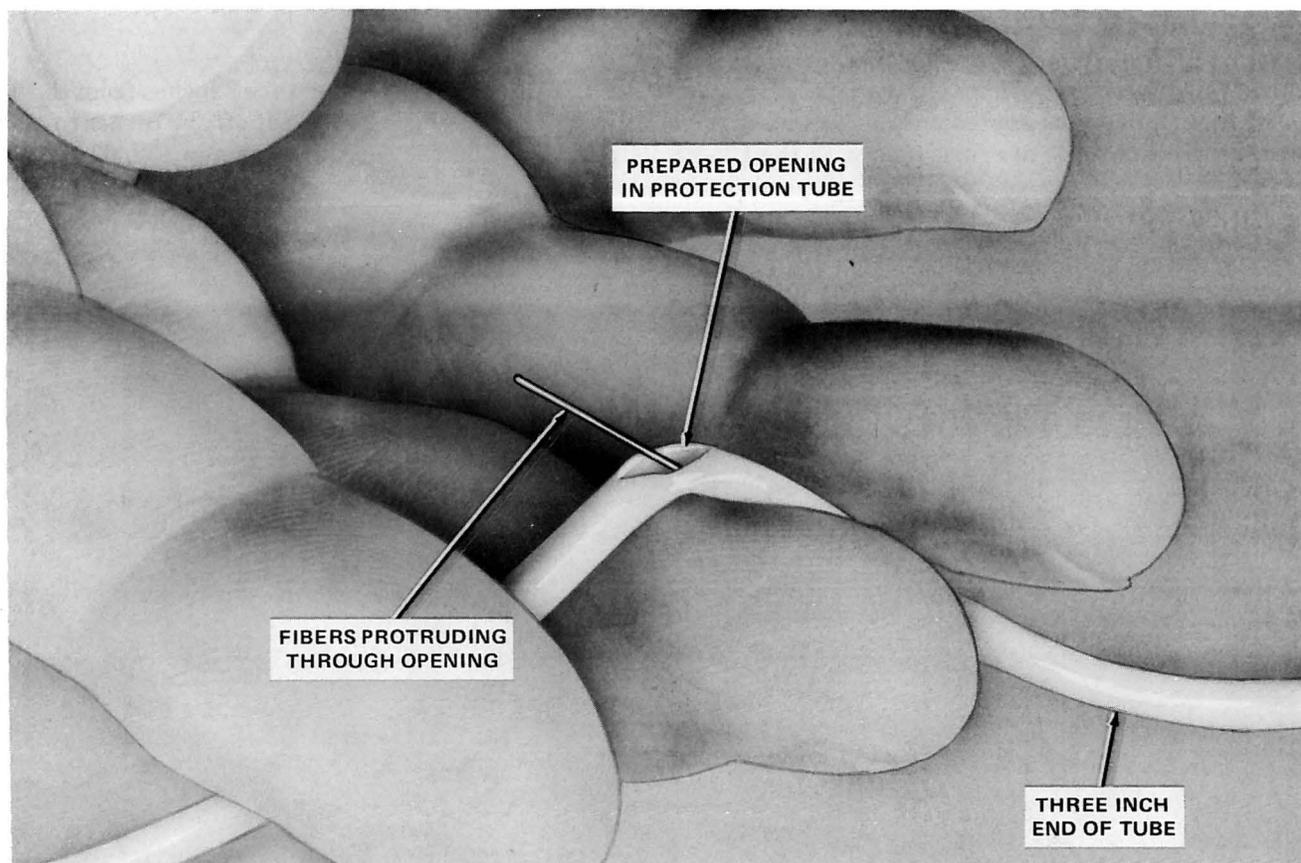

Fig. 61—Partial Placement of Fibers in Protection Tube
8.11 Thread the fibers into the protection tube about 3 inches or until the fibers are visible through the prepared opening, as shown in Fig. 61.